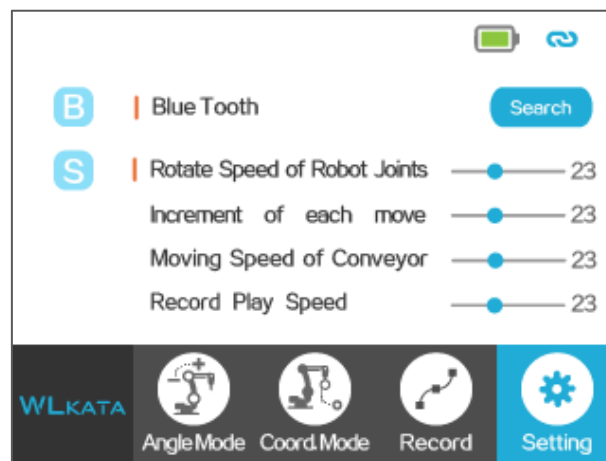

Figure3.48 Setting page on Bluetooth teach pendant
(3) Switch the control page tab on the teach pendant to the setting page, as is shown in Figure 3.48.